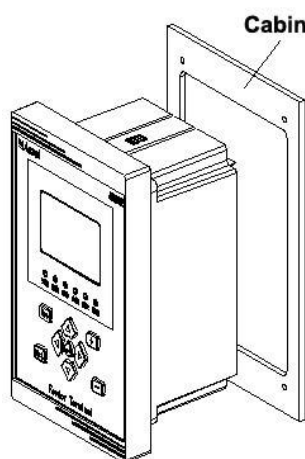

Fig 4.2
- 1.Create a cutout on the panel according to the specified dimensions, as shown in Figure 4.2.